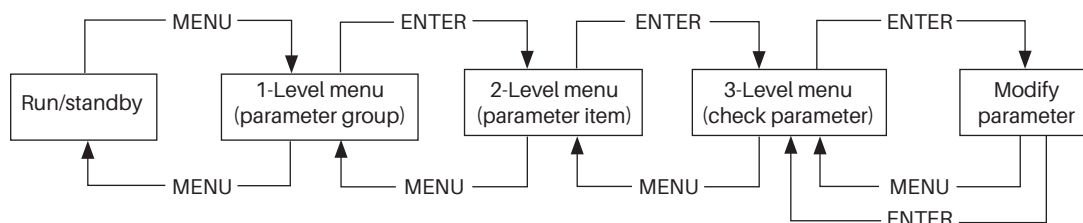
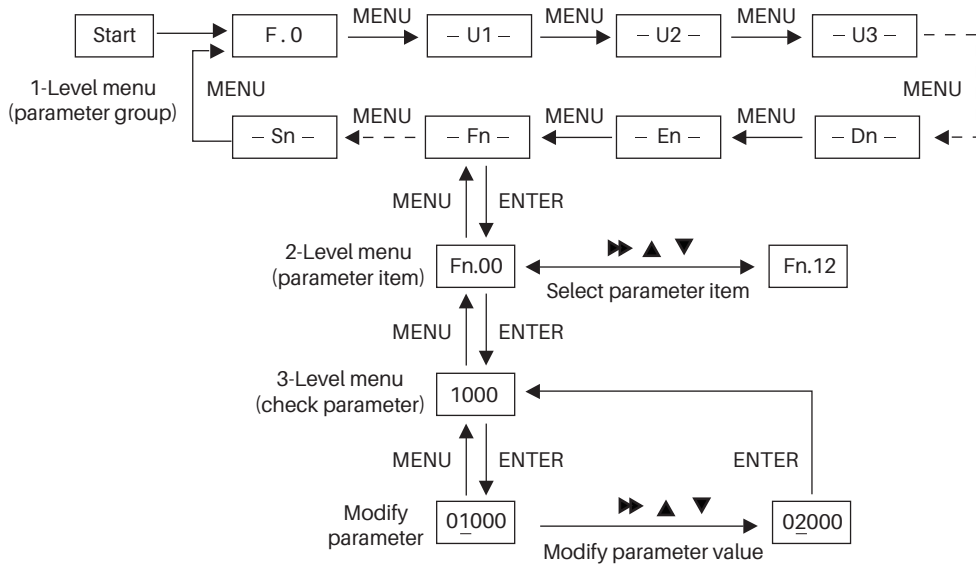

Figure 3-5 3-Level menu operation flow chart
图3-6 三级菜单操作流程
The three-level menu: menu item (1-level menu), parameter item (2-level menu) and parameter setting (3-level menu). The operation process is shown in Figure 3-5.
During operation in 3-level menu, user may return to 2-level menu by pressing **MENU** or **ENTER** (see Figure 3-5 and Figure 3-6). The difference between the two operations: after press **ENTER** key, the set parameter value will be saved to the controller, and then return to 2-level menu; it will return to 2-level menu directly without saving the parameter value by pressing **MENU**. The detail operational procedures of 3-level menu are shown in Figure 3-6.
The flow chart of modify the parameters with the manipulator is shown in Figure 3-6.